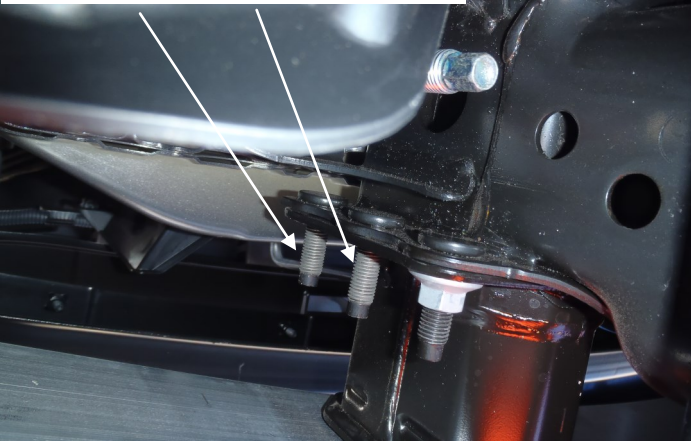

Fig. 2
4. Remove the two upper Factory M10 Flange Nuts from each side of the frame where the bumper brackets are mounted to the frame. Note: Although a 14mm wrench can be used for this step it is much easier with a 3/8" drive mid-length socket such as Snap-On P/N FMS14 or equivalent (Figure 2).